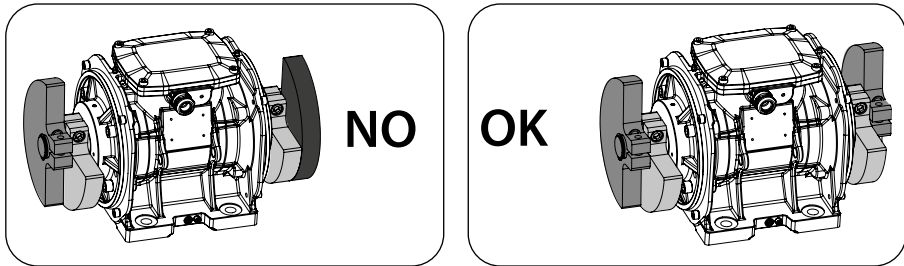

Fig.1
- The adjustable masses must be imperatively set in the same direction on the two ends (see Fig.1).